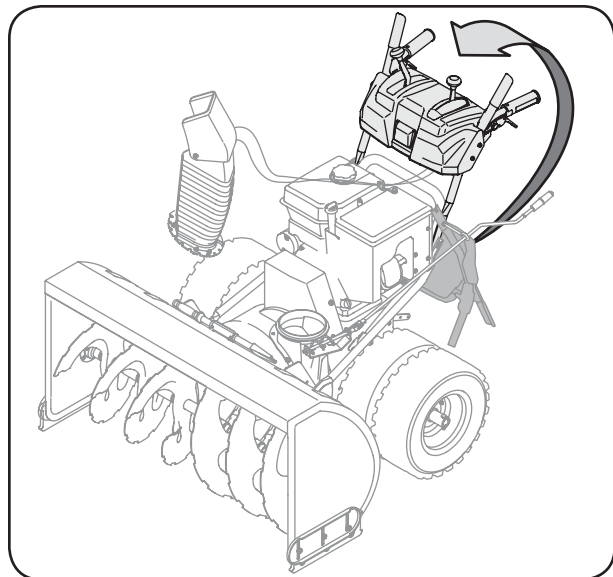

Fig. 3-2
- Raise the upper handle assembly until it locks over the lower handle. See Figure 3-2.